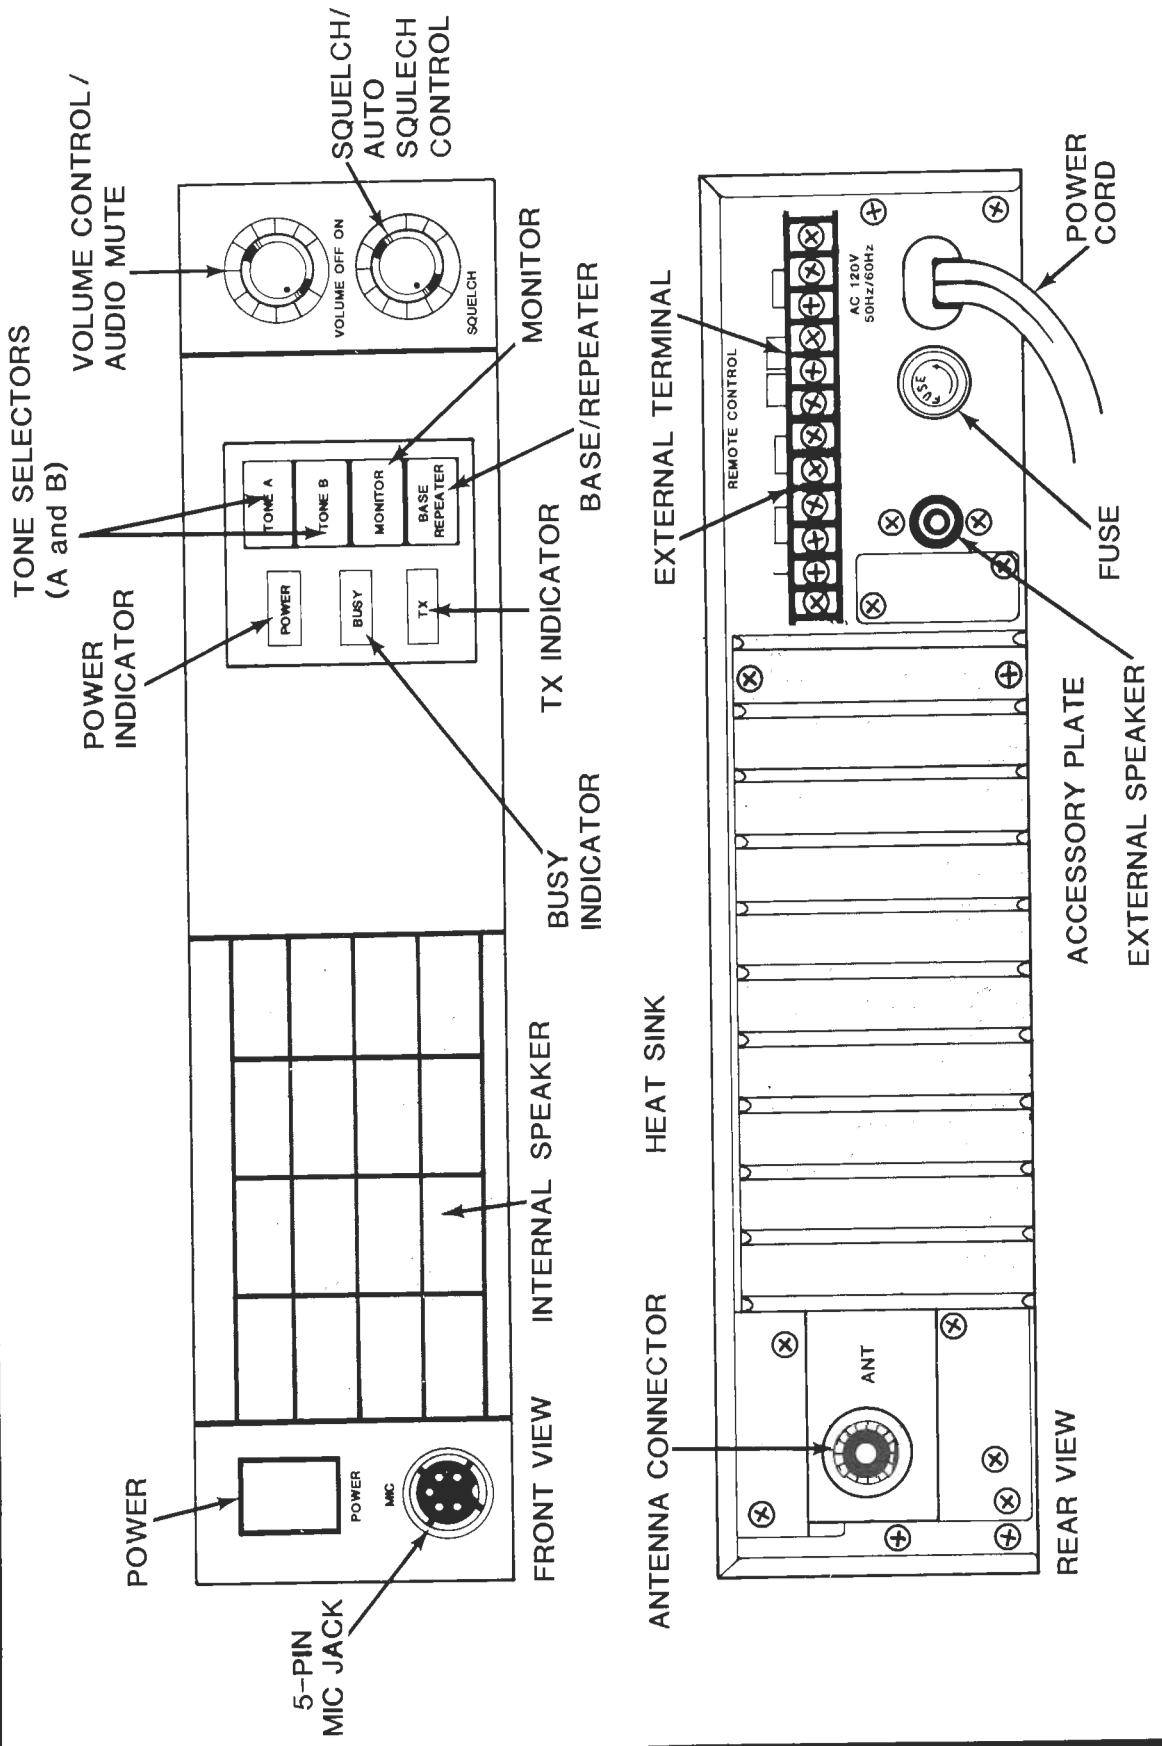

FIGURE 1. RP70U CONTROLS AND CONNECTIONS
1. Ensure that the following connections are made (see Figure 1):